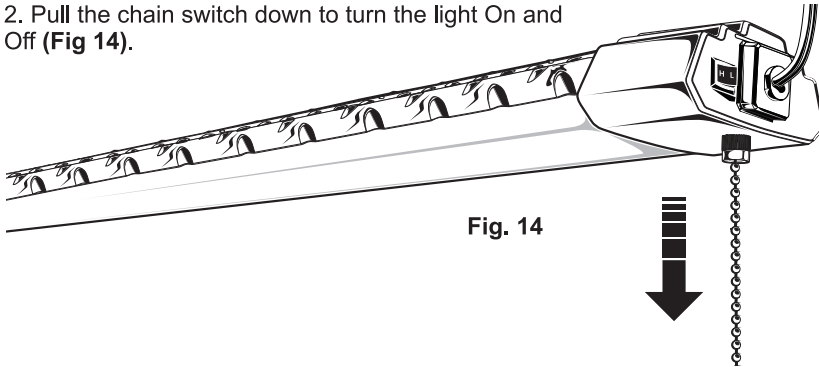

Fig. 14
2. Pull the chain switch down to turn the light On and Off (Fig 14).